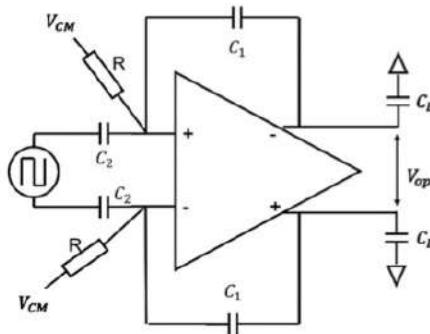

Figure 1: Settling Time setup
1. Connect the OTA as shown in fig. 1 with gain -1 and plot the fully differential output voltage. Choose appropriate value of  $C_1$  and  $C_2$  and  $R$ . consider  $V_{CM} = 0.75V$ . ( To avoid loading effect,  $C_1$  and  $C_2$  should be less than  $0.1 * C_L$ .)